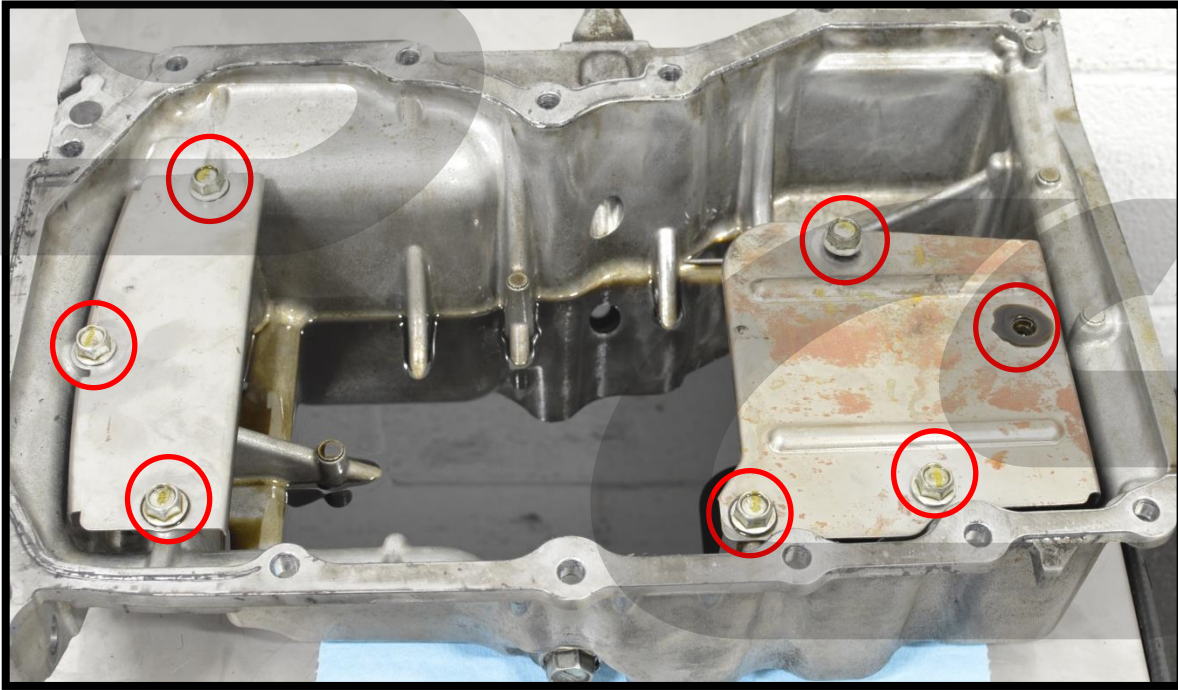

Figure 6a
- a) With the Oil Pan on a Bench, remove the seven (7) 12mm bolts from the OE oil pan baffles. Then remove the OE baffles. Bolts circled in red in Figure 6a.